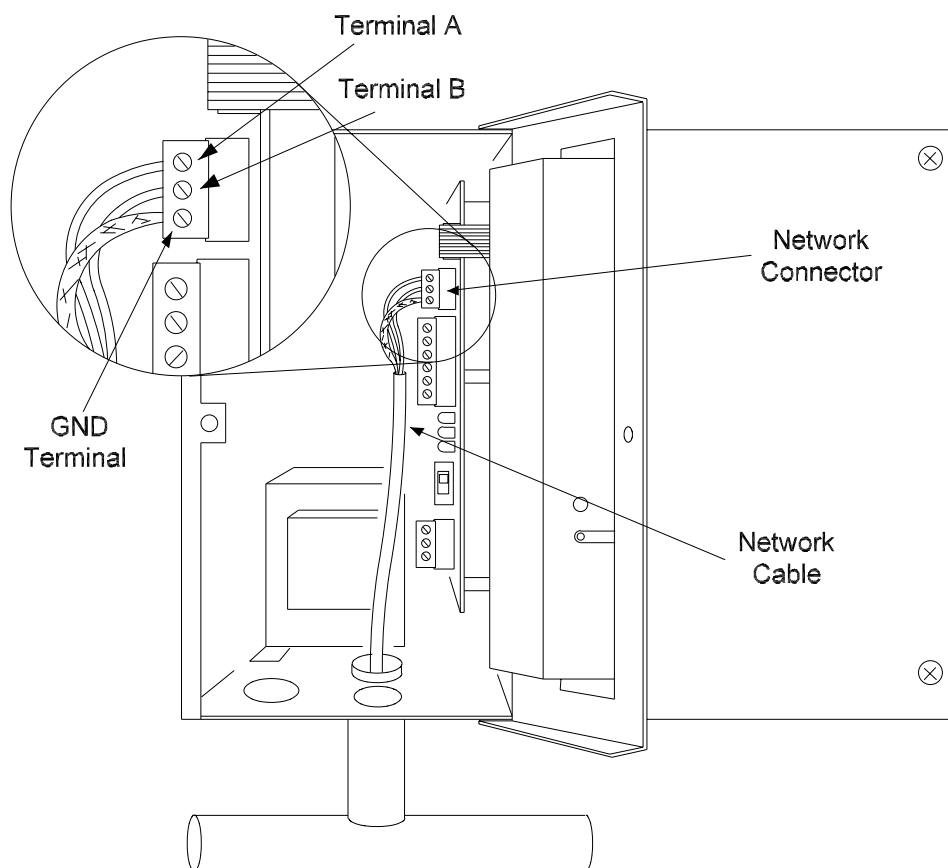

Figure 3.9 Cutaway of the Prolink main data chassis and network connections
Step 3: Remove the corresponding system interlink cover from the left hand side of the 4-slot expansion chassis. Open the left front cover and install the provided backplane interconnect board to the left end of the 4-slot power chassis backplane circuit board. See *figure 3.9*.
Step 2: Connect the network cable conductors to terminals **A** and **B** on the network connector. This connection is not polarized. See *figure 3.9*.